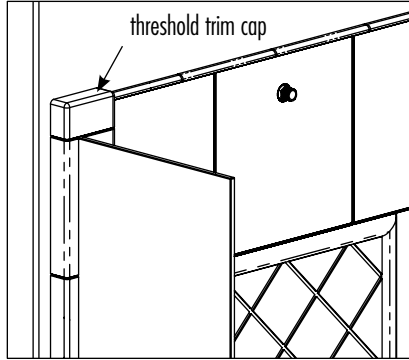

figure 44
7. Locate the wall threshold trim caps and install them using the same procedure for installing the wall threshold trim pieces (fig. 44).